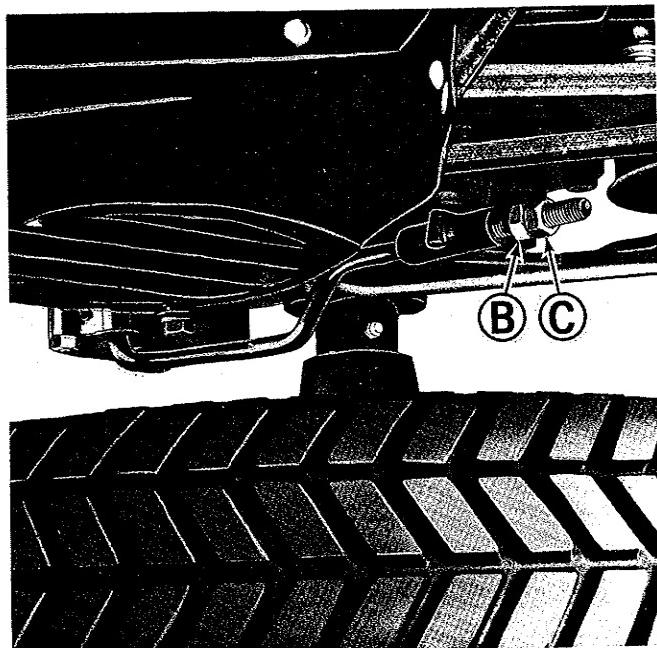

Figure 11. Brake adjustment near right rear wheel.
2. See figure 11. Use one open end wrench to hold nut (B) stationary, and another wrench to turn nut (C) counterclockwise to loosen it slightly.
3. Turning nut (B) clockwise will give more braking action